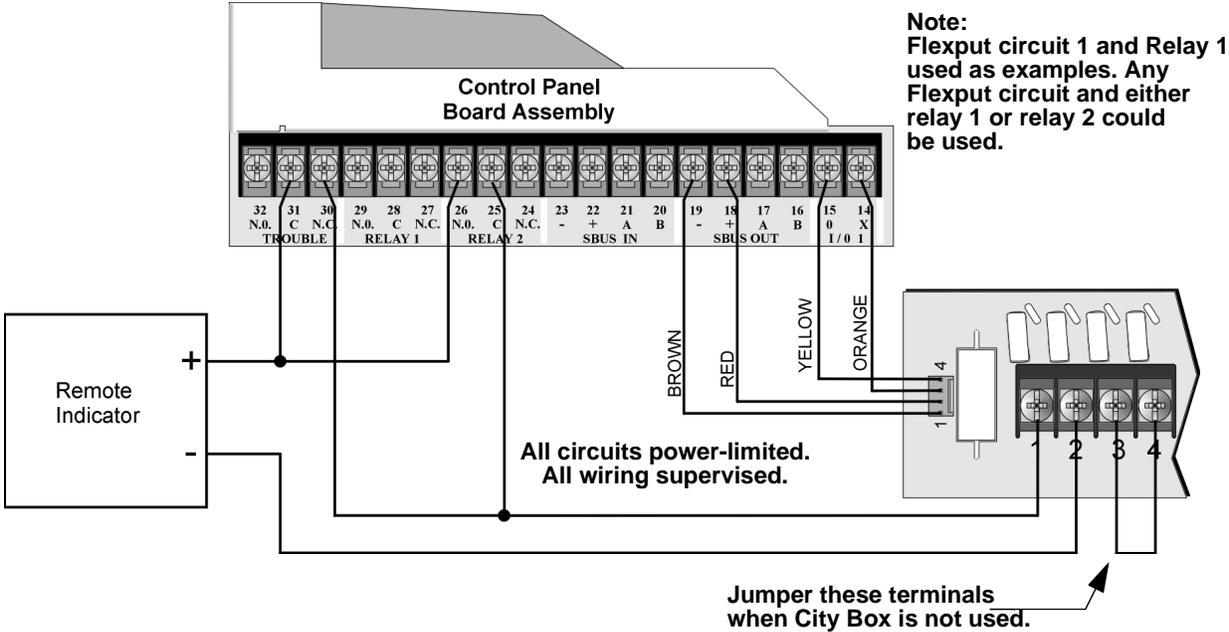

Figure 4-49 Polarity Reversal Connection Using the 5220 Module
2. Wire the 5220 to the control panel using the four-wire pigtail provided as shown in Figure 4-49. This diagram also shows how to connect the 5220 to the remote indicator. Do not install an EOL resistor in the terminals of the Flexput circuit used for this application.